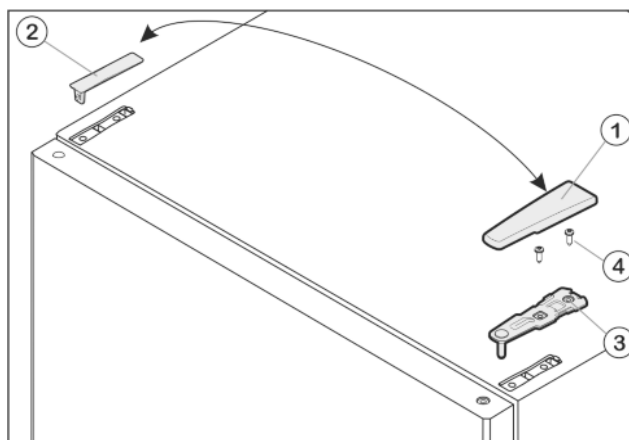

Fig. 7
- ▶ Pull off the cover Fig. 7 (1) forwards and upwards.
- ▶ Lift off the cover Fig. 7 (2).
- ▶ Unscrew the upper turn hinge Fig. 7 (3)(2x Torx® 25) Fig. 7 (4) and lift it off.
- ▶ Insert the upper turn hinge Fig. 7 (3) in the door on the new hinge side.
- ▶ Screw the upper turn hinge **firmly** into place (**with 4 Nm**)(2x Torx® 25) Fig. 7 (4). Possibly make preliminary holes with a Bradawl or use a cordless screwdriver.
- ▶ Apply the cover Fig. 7 (1) and cover Fig. 7 (2) to the opposite side from the outside and snap them into place.